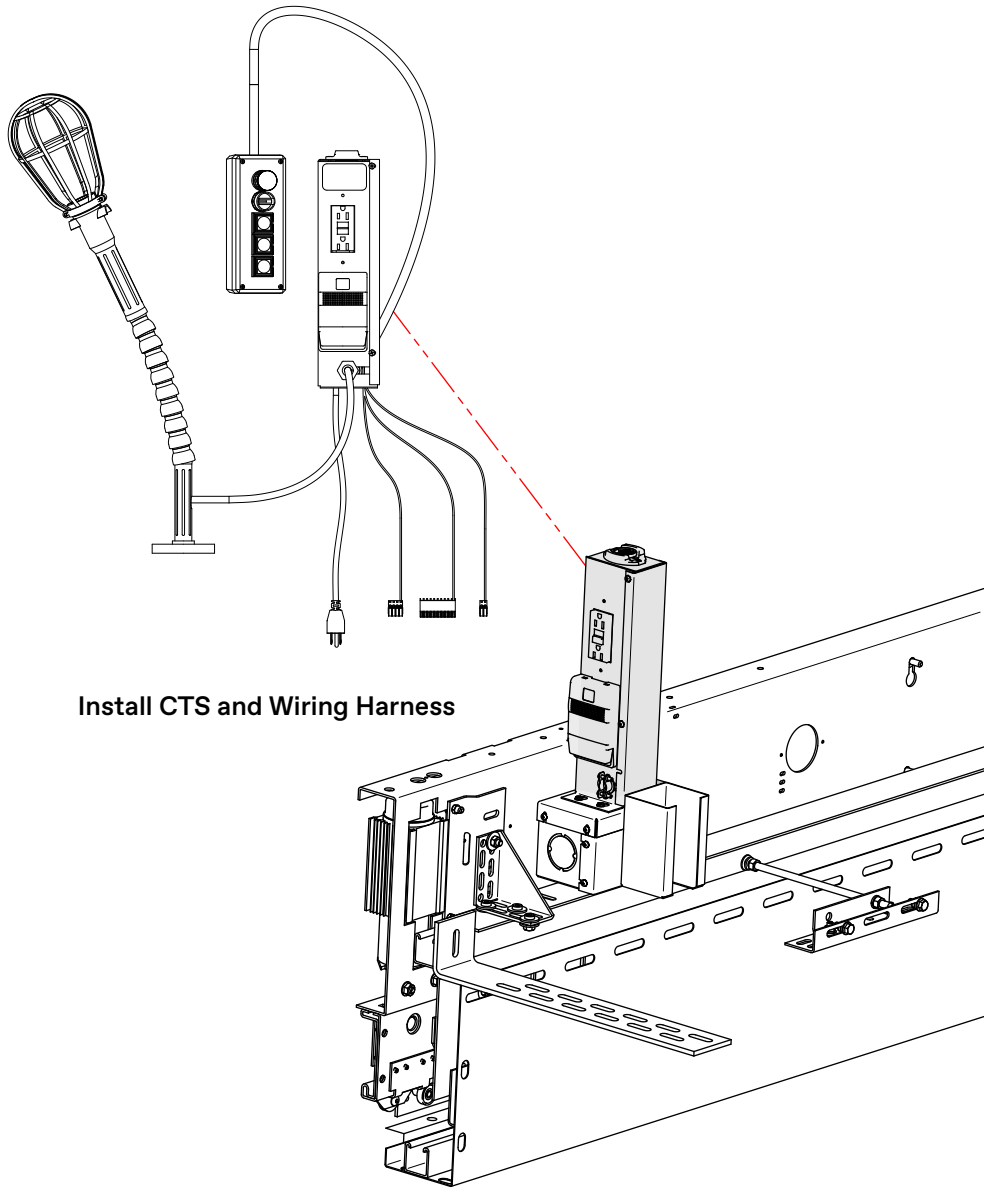

Figure 37 - CTS and Wiring Harness Installation
7. Install the CTS to the top of the junction box. See Figure 37.